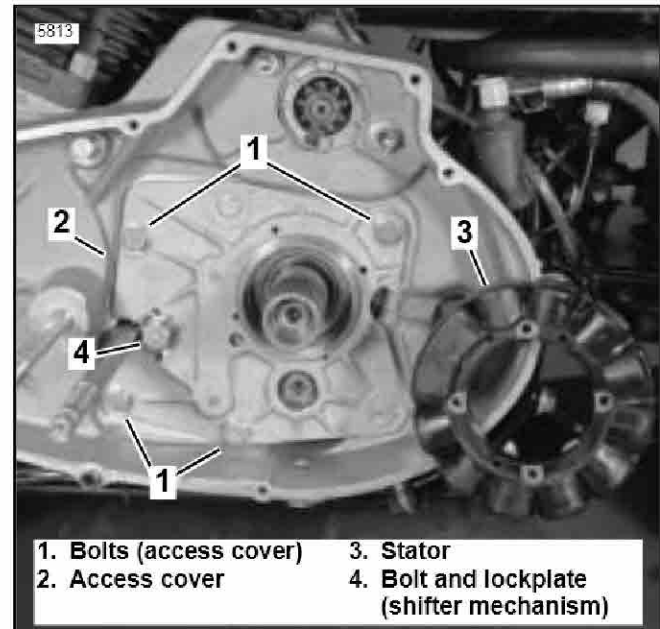

Figure 2. Transmission Access Cover Hardware
5. See Figure 2. Remove four bolts securing access cover to the crankcase.
8. See Figure 2. Remove shifter mechanism from access cover by removing bolt and lockplate.